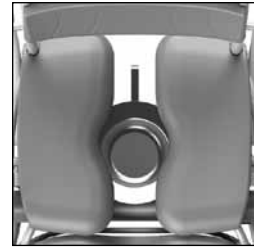
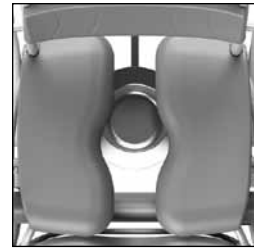

Figure 9 Stainless steel bedpan, front.
Figure 10 Stainless steel bedpan, back.
- If you are using a stainless steel bedpan or bucket, the bedpan can be placed in 2 positions under the seat. At the front of the seat (*See figure 9*) or at the back of the seat (*See figure 10*).